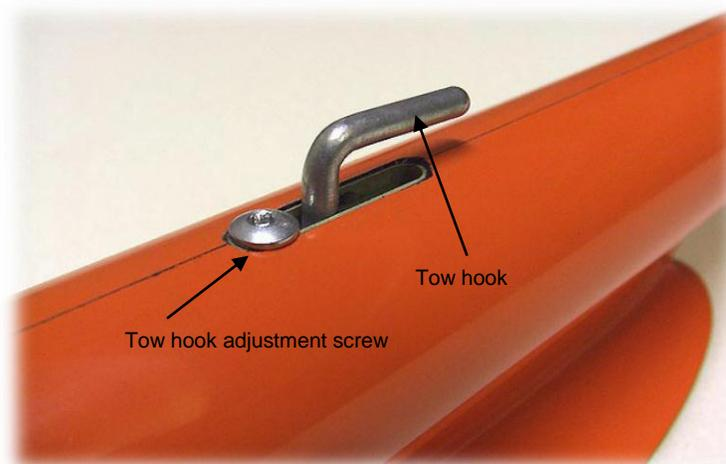

Figure 20: Tow hook and tow hook adjustment screw
2. Loosen the tow hook adjustment screw and move the tow hook into the desired position. See figure 20.